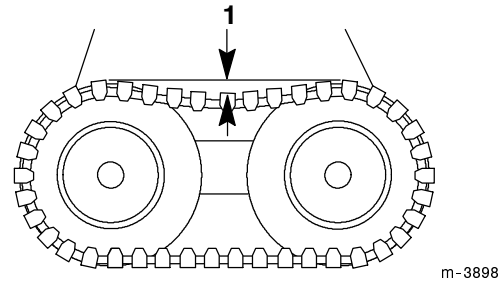

Figure 6
12. Lay a long, straight bar across the top of each track. There should be 1 to 3 in. (25 to 76 cm) of slack in the top span of the track below the bar (Fig. 6).
Check the tension of the tracks every 25 operating hours by laying a long, straight bar across the top of each track. There should be 1 to 3 in. (25 to 76 cm) of slack in the top span of the track below the bar (Fig. 6). If the track needs adjustment, complete the following procedure: